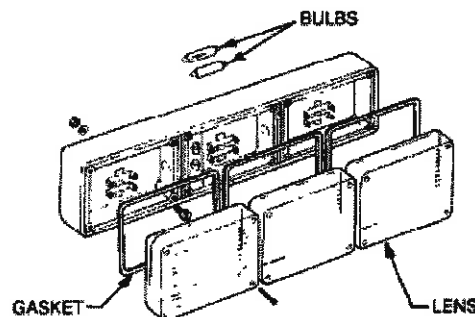

Figure 39 Stop/Tail, Reversing and Indicator Lights - Exploded View
- Replace the bulb as required (Figure 39).